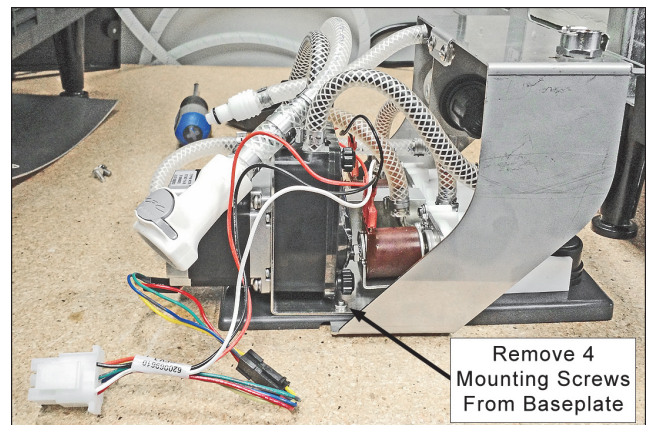

Figure 3 - Mixing-Dispensing Assembly Removed
- 4) In the cabinet, unplug the wiring connector from the mixing-dispensing assembly and remove the assembly. Place it on the counter-top (Fig. 3).